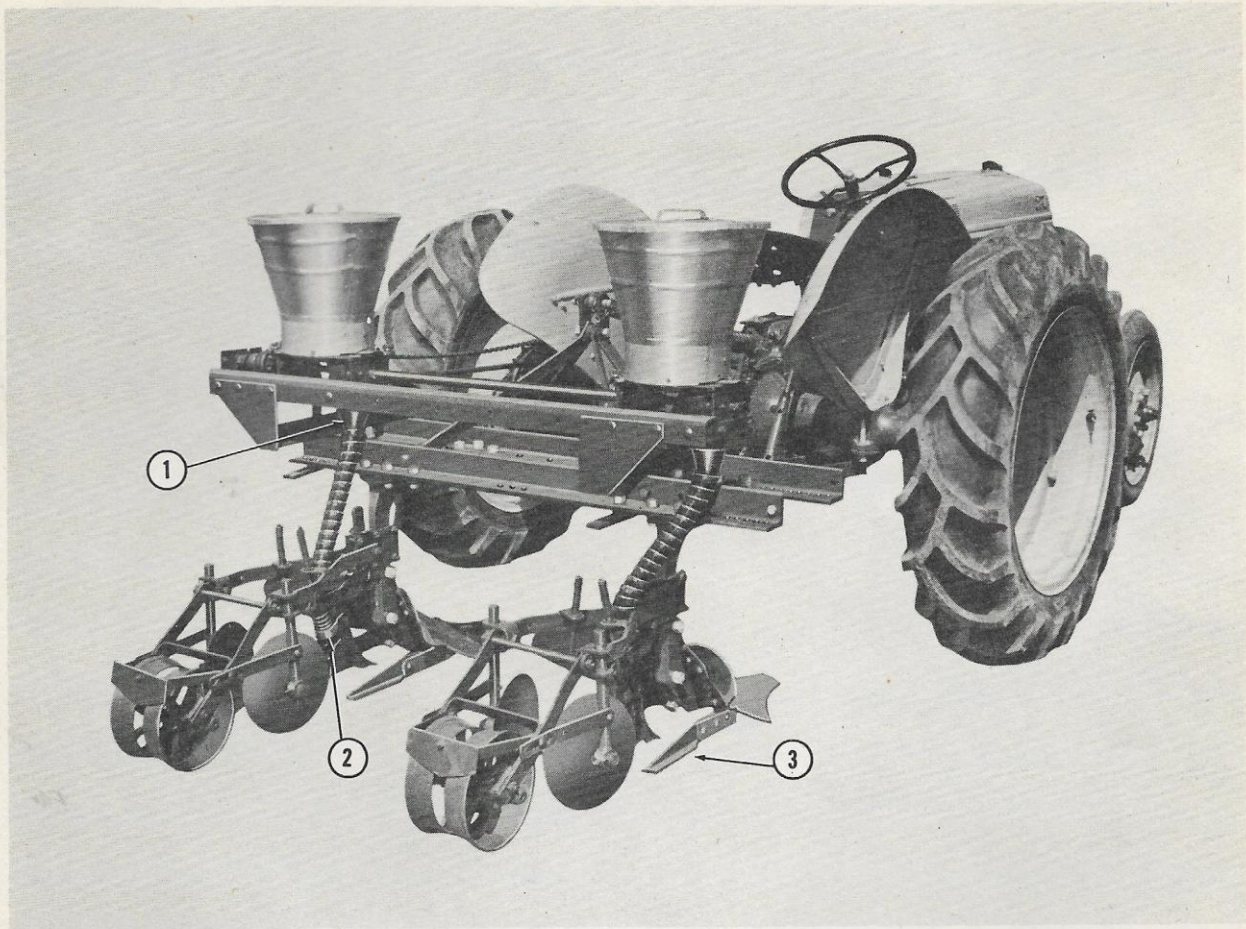
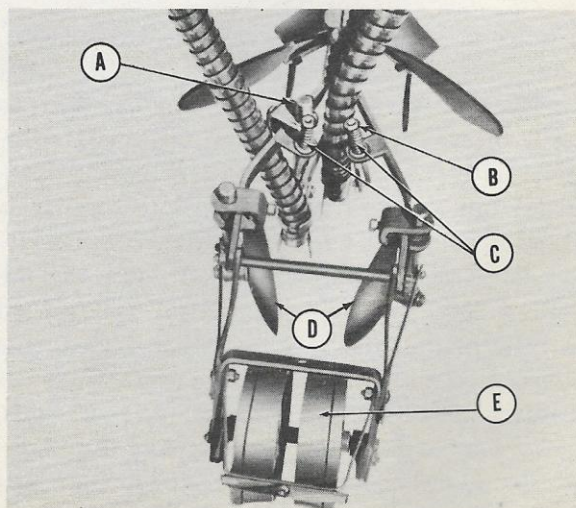

Figure 23
Figure 25
10. Place the collar end of each grain tube (1), Figure 23, on each grain spout. Push the collar up and turn to the right to lock in place.
- a. Secure the lower end of each grain tube with the clamp (2), Figure 23, provided on each opener.
NOTE: For the desired seed hopper assembly and attaching the seed hoppers, see Steps 15 and 16. To mount the fertilizer attachment on the middlebuster see Assembly Procedure on Pages 12 and 13. When the Kelly Planter and fertilizer attachment is mounted on middlebuster the runners (3), Figure 23, if the implement is equipped with them, must be removed. This will allow space for the fertilizer opener (A), Figure 25.
Covering Frames: To apply more pressure to the coverers (D) and press wheels (E), Figure 25, tighten the adjusting nut (B) on each covering frame spring (C).